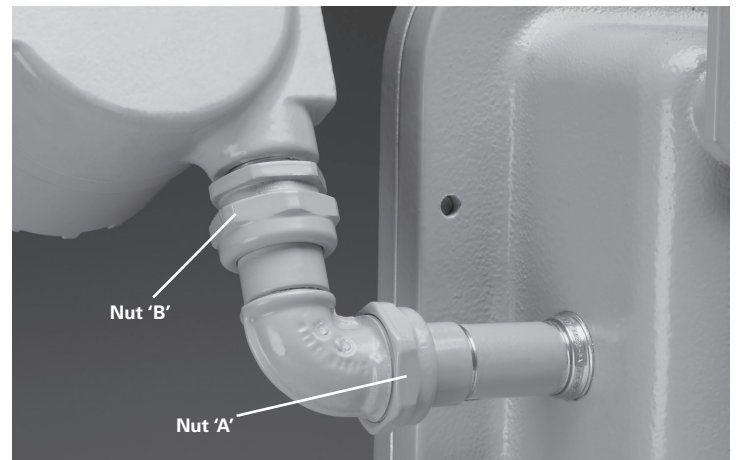

Figure 2. EVLAM2 Luminaire
23. Adjust EVLAM2 emergency light(s) for the desired direction of illumination and lock into position using 1-5/8” open-ended wrench and torquing to 58 lb.-ft. See Figure 2.